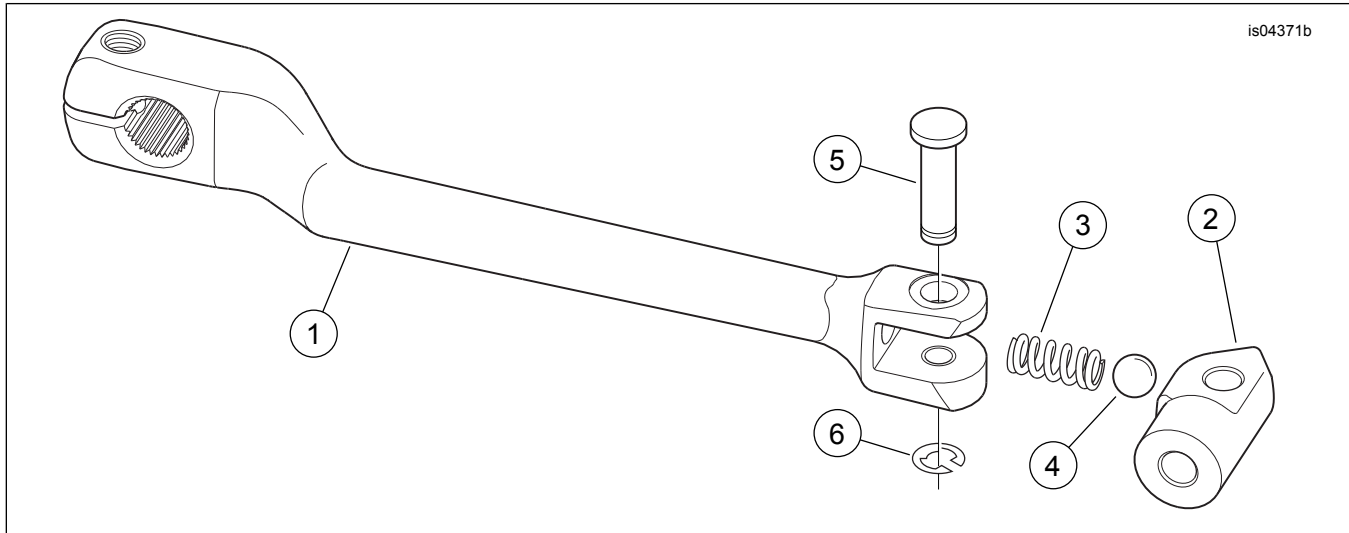

Figure 1. Service Parts, Folding Heel Shifter Kit
See Figure 1 and Table 1.
1. See Figure 1. Position **new** heel shift lever so screw hole counterbore is facing down and at desired angle.